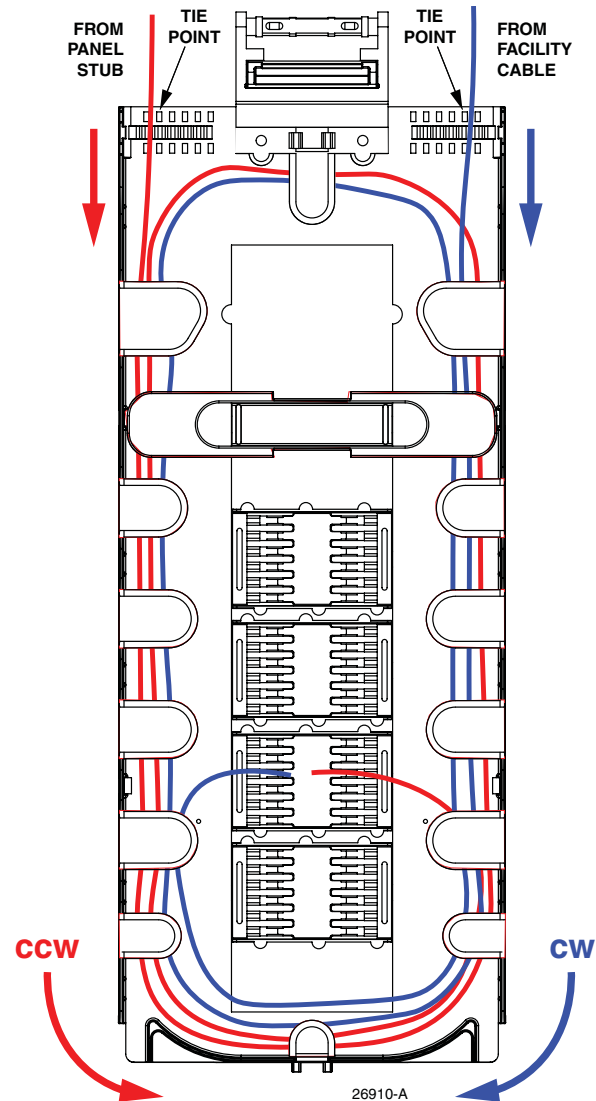

Figure 19. Routing on Splice Tray
3. Route the first panel stub (coming through the lowest entry portal) to the splice tray and tie it down at the tie down point shown in Figure 19.
5. Route the first sub-unit of the rightmost facility cable to the splice tray and tie it down at the tie down point shown in Figure 19.